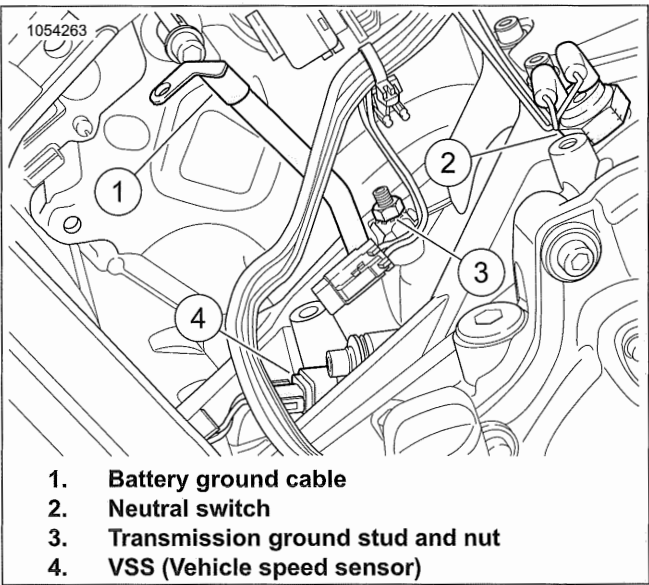

Figure 7-154. Battery Ground Cable: (Starter removed for clarity)
- 2. See Figure 7-154. Remove battery ground cable (1) on transmission ground stud (3).
- 1. See Figure 7-154. Install battery ground cable on transmission ground stud (3).